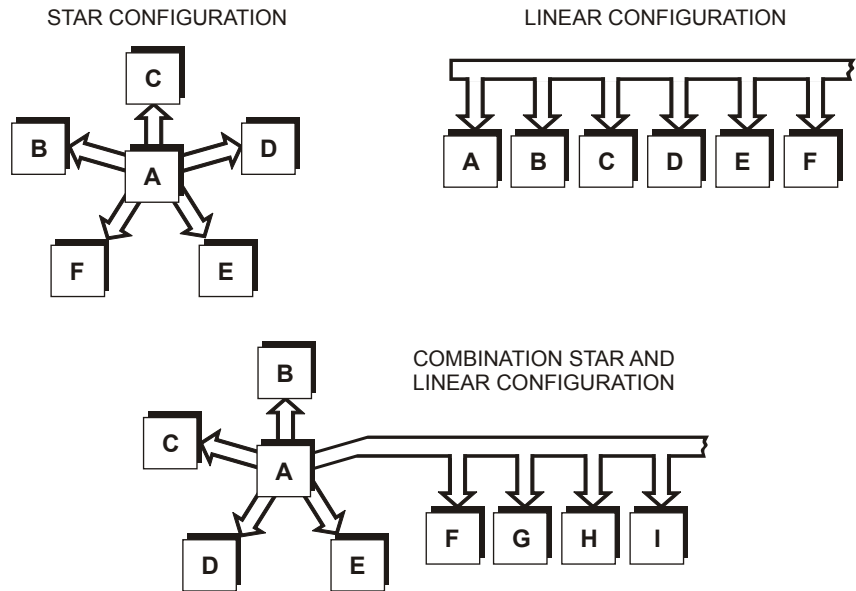

Figure 29. GPIB devices may be connected in star, linear, or combination star/linear configurations.
- Devices may be connected in a star or linear configuration (see Figure 29), or a combination of star and linear configurations.